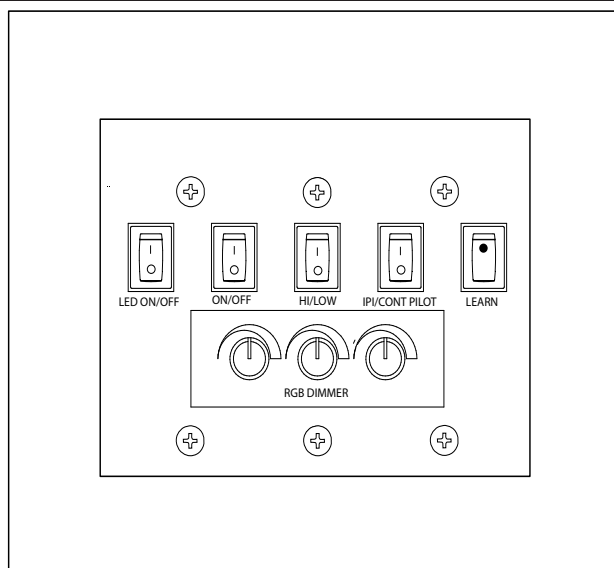
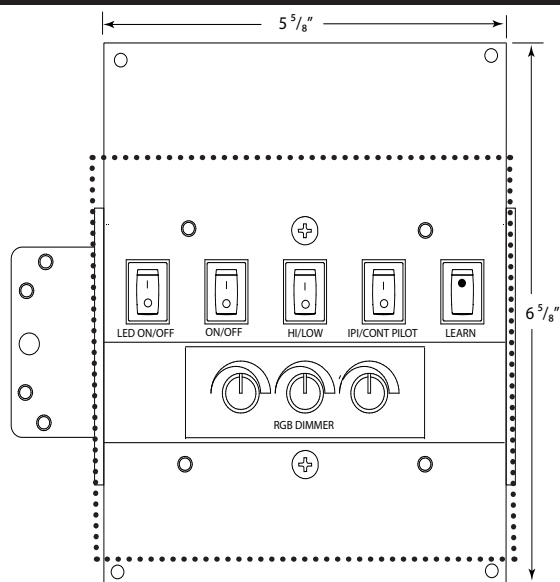

Fig. 24 RGB control box with 8 $\frac{3}{4}$ " x 8 $\frac{3}{4}$ " cover plate.
Fig. 25 RGB control box mounting plate
Step 10: Remove the RGB control box from the components parts carton. Find a suitable location within a close proximity of the fireplace for convenience of operation and mount the control box upright and level as shown in Fig. 26, page 21. Use Figs 24 & 25 for dimensional reference. The fireplace is supplied with 10-feet of wiring for the RGB control box (switches and dimmer) installation. **Note:** If desired, you can purchase 10-foot wire extensions in the accessories section that will enable you to move the RGB control box up to 50-feet away from the fireplace. **CAUTION:** Ensure all switches are in the OFF position. "I" indicates ignite/ON and "O" indicates OFF. Learn button does not apply.
Step 11: Remove the four (4) outer screws from each corner inside the cover plate and lift off. See Fig. 24. This will expose the mounting plate. See Fig. 25. **CAUTION:** Do not remove the two center screws from the cover plate. This will release the entire switch box wiring from inside the junction box and make it difficult to reinstall.
Step 12: Find a desired location to mount the RGB control box. Cut a 6" wide x 5 $\frac{1}{2}$ " tall hole into the cement board. See dotted line in Fig. 25. Mount the RGB control box. **Note:** The wires from the switches can be removed for easier installation, if needed. Ensure to match the wires with the labels for each switch when reattaching.